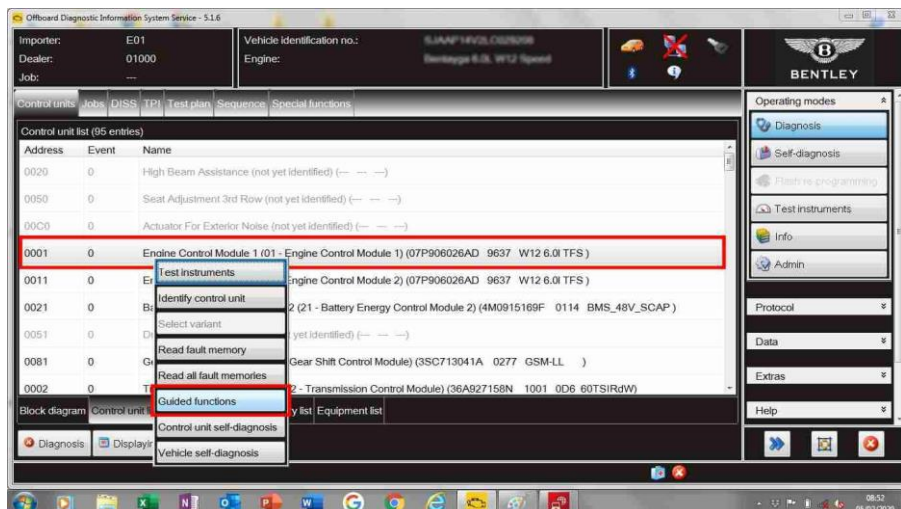

Figure 2.
- “Right click” on **“Engine Control Module 1 (01 – Engine Control Module 1)”** and select **“Guided functions”** – Figure 2.